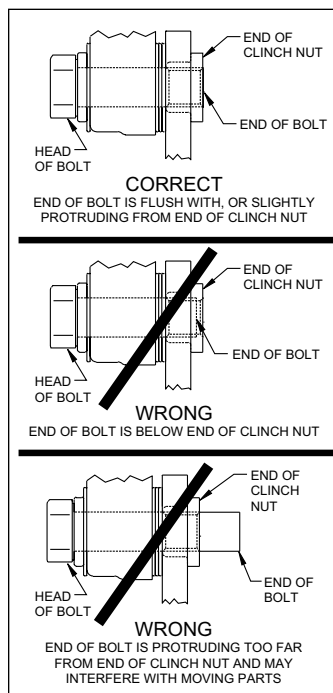
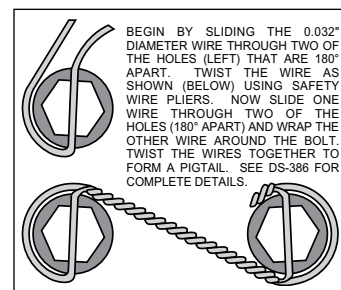

Figure 4. Clinch Nut Engagement Diagram
Figure 5. Safety Wire Diagram
CAUTION: All mounting bolts must fully engage clinch nuts. Be sure to check that all bolts are either flush or protruding through flanged side of clinch nut after shimming, Figure 4.
STEP 5 NOTE: Please reference the caution statement at the beginning of the assembly instructions. Mount the caliper (6) onto the mounting bracket (1) using bolts (7) and washers (8), as shown in Figure 1. Initially place two .035" thick shims (9) on each bolt between the caliper and the bracket, Photo 6. Temporarily tighten the mounting bolts and view the rotor (4) through the top opening of caliper. The rotor should be centered in the caliper, Photo 7. If not, adjust the caliper by adding or subtracting shims (9) between the bracket and the caliper. Always use the same amount of shims on each of the two mounting bolts. **NOTE:** The end of each bolt must be flush with or slightly protruding from the head of the clinch nut. If necessary, place spare shims between washer and caliper mounting ear to achieve the proper clinch nut engagement, as shown in Figure 4. Once the caliper alignment and clinch nut engagement are correct, remove the bolts (7) one at a time, apply red *Loctite*® 271 to the threads, and torque to value shown in Figure 1. For an added measure of security, the bolts may be safety wired using standard 0.032 inch diameter stainless steel safety wire as shown in Figure 5. Please refer to Wilwood's data sheet DS-386 (available at www.wilwood.com/Pdf/DataSheets/ds386.pdf) for complete safety wire installation instructions.